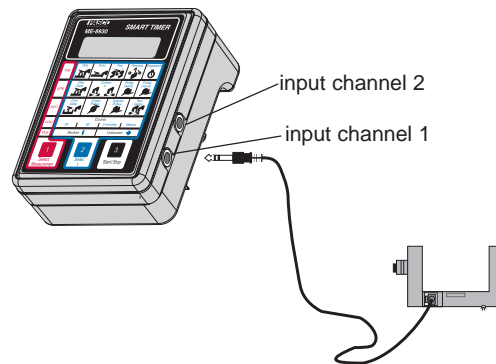

Figure 2
1. Plug the ¼-inch phone plug from the photogate into the Smart Timer's input channel 1 or 2 (see Figure 2). For all experiments using a single photogate or pulley, either of the two available jacks may be used interchangeably. For all other modes see the individual descriptions below.